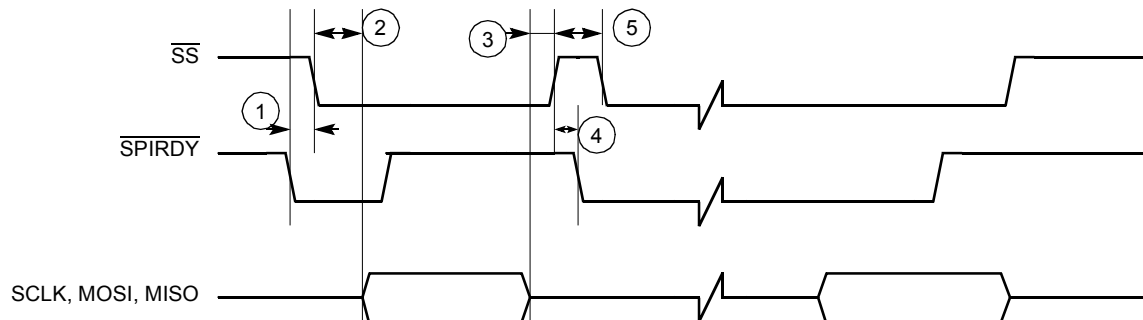
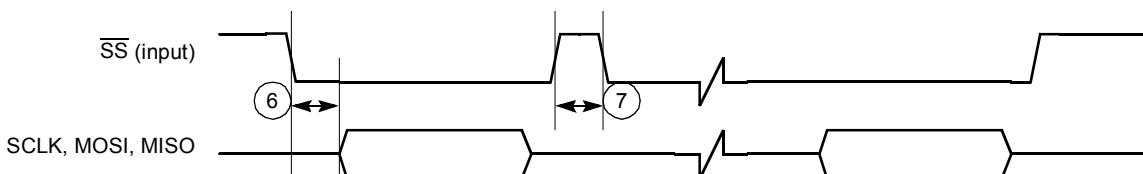

**Figure 14. Master CSPI Timing Diagram Using SPI\_RDY Edge Trigger**
**Figure 18. Slave CSPI Timing Diagram FIFO Advanced by SS Rising Edge**
**Table 19. Timing Parameters for Figure 14 through Figure 18**